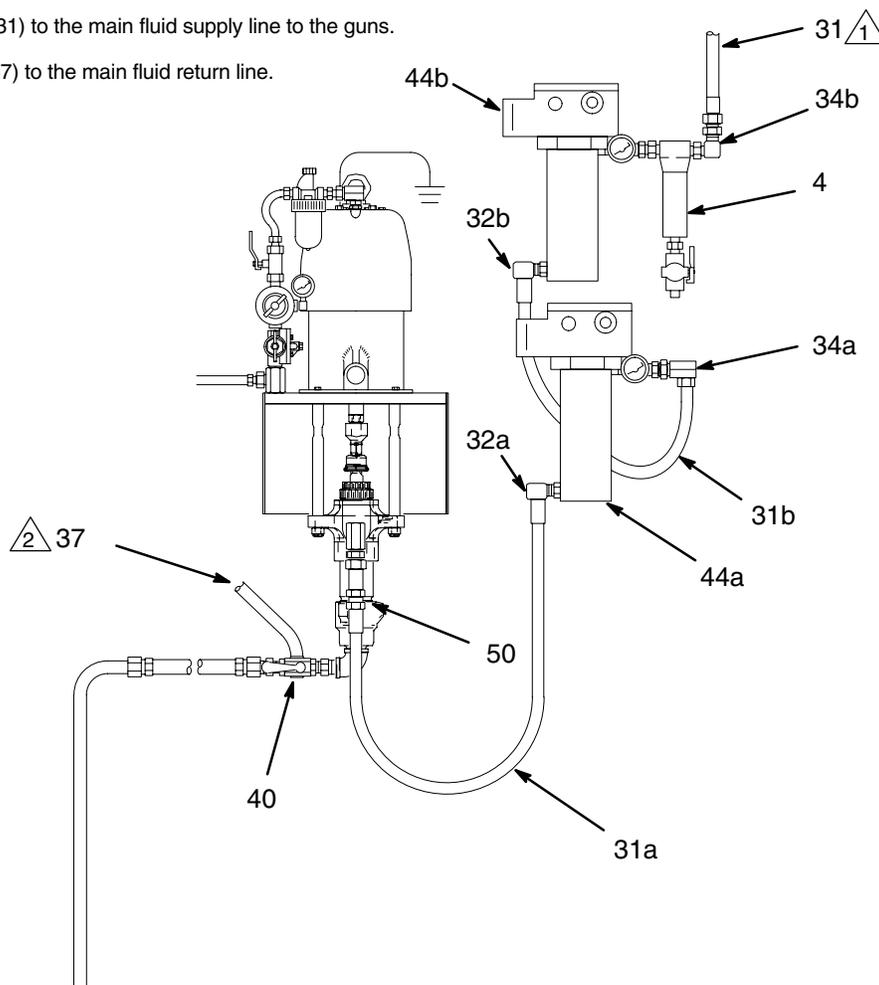
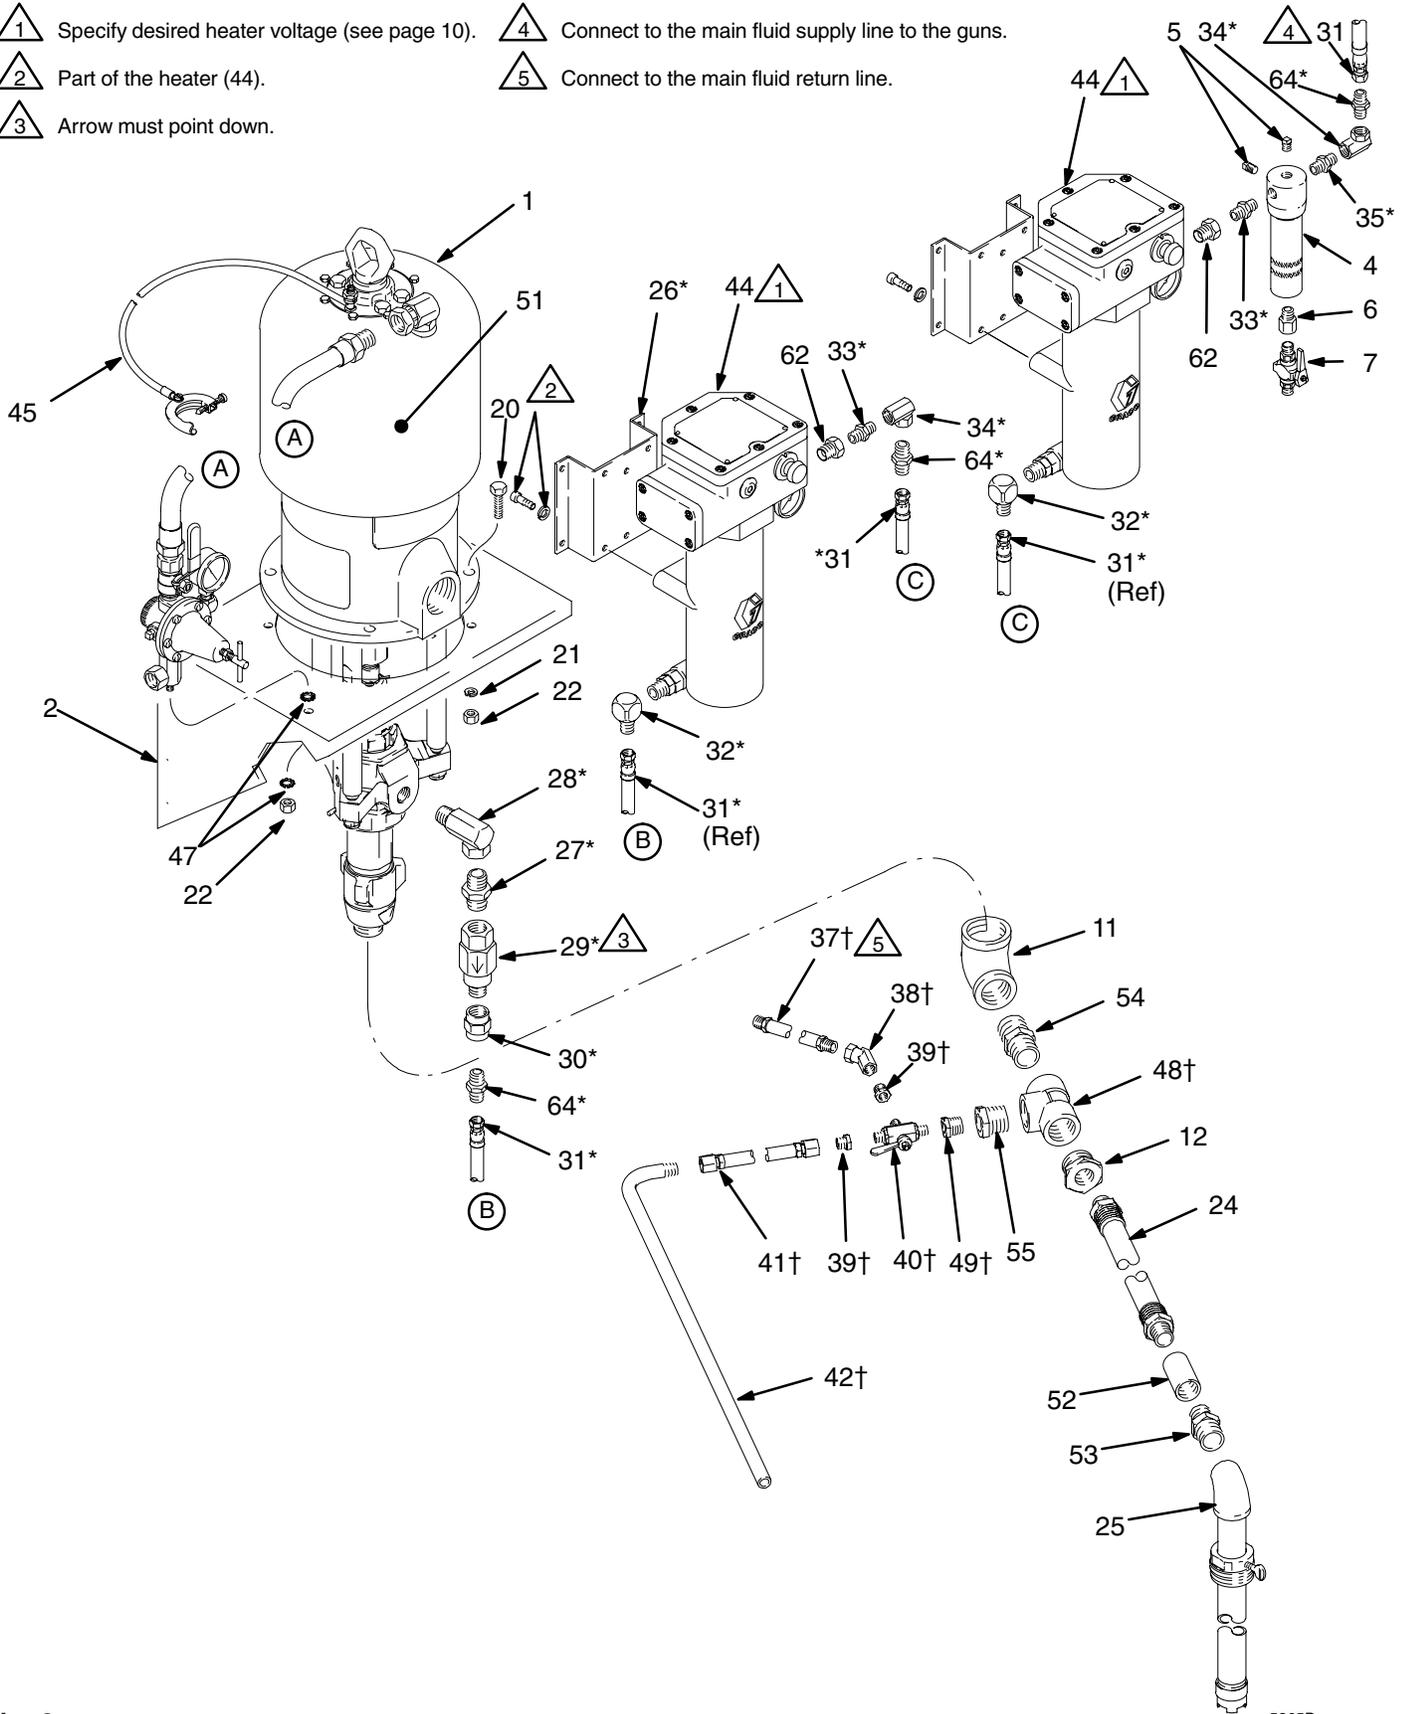

Fig. 4
Fig. 6
5. Bring the hose (31a) from the inlet elbow (32a) of the lower heater (44a) and connect it securely to the swivel (50) coming from the pump outlet. See Fig. 4.
7. Bring the fluid supply hose (31) from the swivel (34b) at the fluid filter (4) outlet and connect it to the main fluid supply line to the guns.
8. Bring the fluid return hose (37) from the three-way ball valve (40) and connect it to the main fluid return line.
- 1 Connect supply hose (31) to the main fluid supply line to the guns.
- 2 Connect return hose (37) to the main fluid return line.
5. Screw the 3/4 npt street elbow (28*) into the pump's fluid outlet. Assemble the nipple (27*), check valve (29*), coupling (30*), and swivel (50*) as shown in Fig. 6. The arrow on the check valve must point down, toward the coupling.
6. Screw an elbow (32*) onto the lower heater's inlet. Screw the coupler (63) onto the elbow. Attach the heater hose (31*) to the coupler. Connect the other end of the hose to the swivel (50*) coming from the pump outlet.
7. Screw an elbow (32*) onto the upper heater's inlet. Screw the coupler (63) onto the elbow. Attach the second heater hose (31*) to the coupler. Run this hose to the left of and behind the lower heater. See Fig. 4.
8. Install the bushing (62) and a 3/8 npt nipple (33*) in the lower heater's outlet. Screw the rigid end of the union (34*) onto this nipple, and screw the swivel end of the union onto the free end of the second heater hose (31*).
9. Screw the bushing (62) and a 3/8 npt nipple (33*) into the upper heater's outlet. Screw the fluid filter (4) inlet onto this nipple. Unscrew the adapter (10) from the filter outlet. Screw the 1/4 x 3/8 npt nipple (35*) into the filter outlet, and screw the union (34*) onto the nipple. See Fig. 6.
10. Install the warning label (51) as shown in Fig. 6.
2. Screw nipple (54) and then the tee (48†) into the elbow (11) at the pump fluid inlet. Screw the 1 x 3/4 npt bushing (55) and then the 3/4 npt x 1/4 npt bushing (49†) into the branch of the tee. See Fig. 6.
3. Reconnect the bushing (12), hose (24), fittings (52 and 53), and suction tube (25).
4. Install the CIRC end of the three-way ball valve (40†) in the bushing (49†). Screw a bushing (39†) onto the IN branch of the three-way valve. Connect the rigid end of the 45° union (38†) to this bushing. Screw the swivel end of the union (38†) onto the braided hose (37†). Connect this hose to the main fluid return line. See Fig. 6.
6. Install the warning label (51) as shown in Fig. 6.